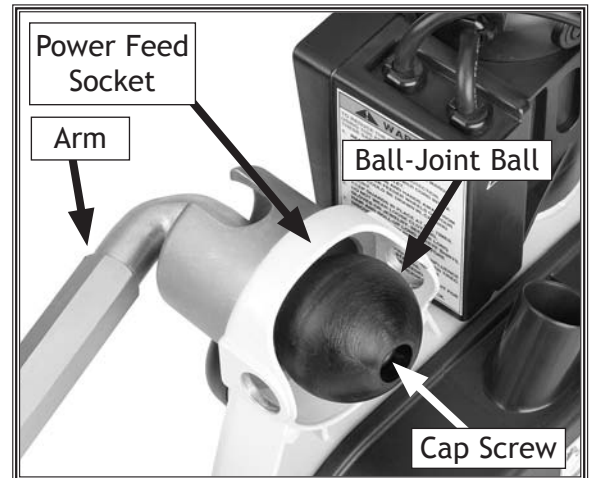

Figure 6. Arm, ball joint and socket assembly.
3. Insert the arm into the ball-joint ball and secure both together with the M10-1.5 x 25mm cap screw shown in **Figure 6**.
4. Insert the ball joint assembly into the power feed socket shown in **Figure 6**.